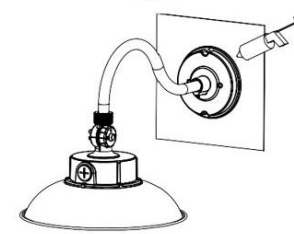

Fig 6
6. Line the edge of the mounting base with waterproof sealant. Restore the main power (Fig 6).